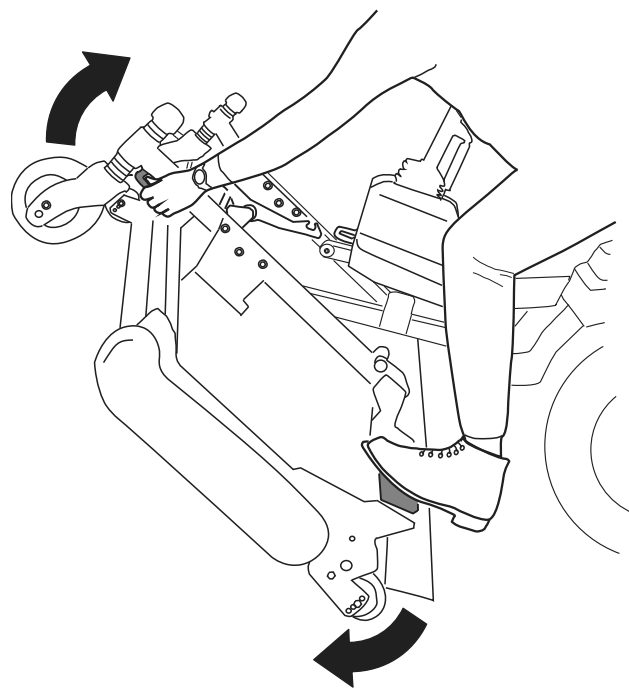
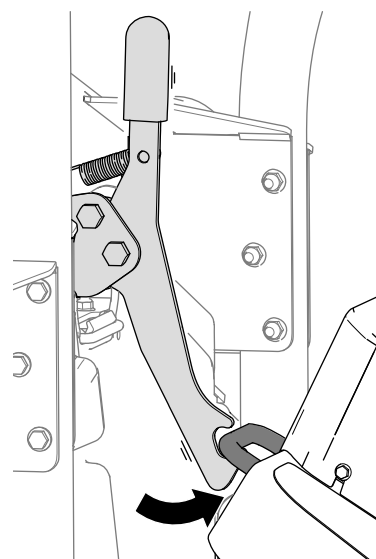
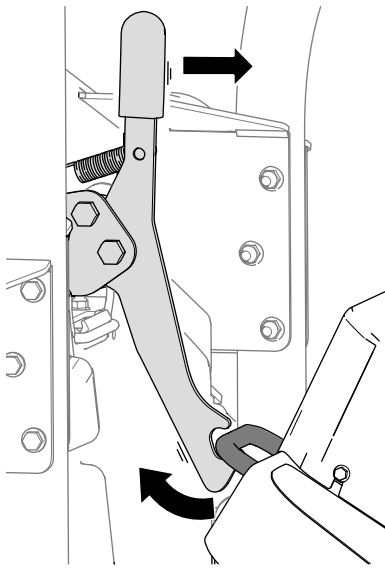

Figure 32
Figure 33
Figure 34
5. Rotate the cutting unit (Figure 32) so that the latch engages with the tie-down bracket (Figure 33).
1. Release the cutting-unit latch from the tie-down bracket (Figure 34) by rotating the cutting unit slightly forward (refer to Figure 32) and pulling the latch handle forward.